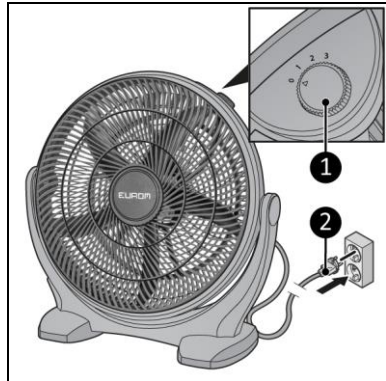

Figure 4
3. Make sure the control knob is in the OFF position (Figure 4, pos. 1).
4. Put the power plug (Figure 4, pos. 2) into a wall socket that is easily accessible. Use a wall socket with a minimum power of 50 Watt.